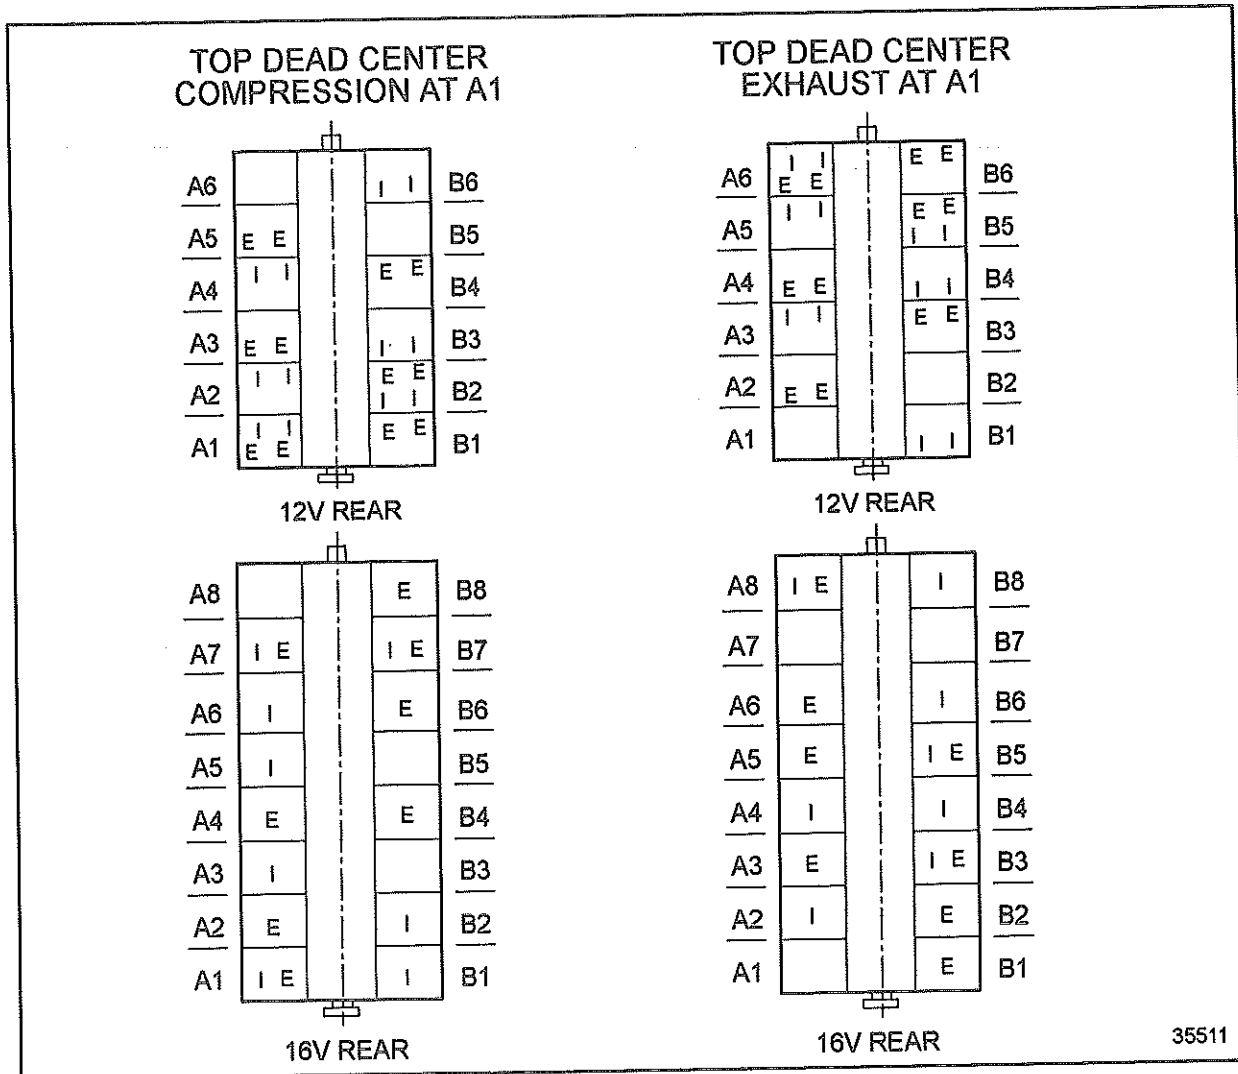

Figure 484 Adjusting Valve Clearance in Two Crankshaft Positions
1. If swing arms on cylinder A1 are unloaded, the piston is in firing TDC. See Figure 484.